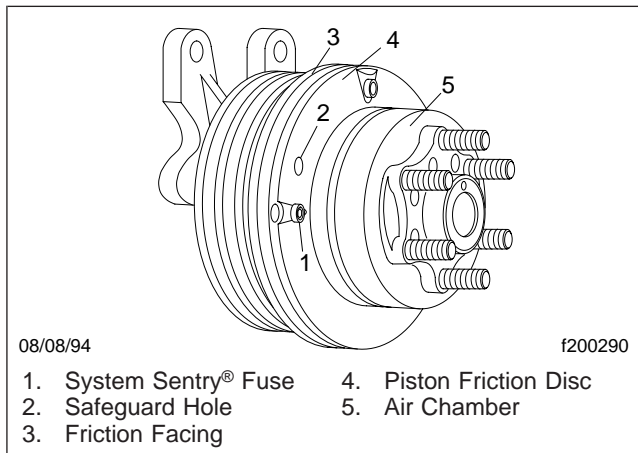
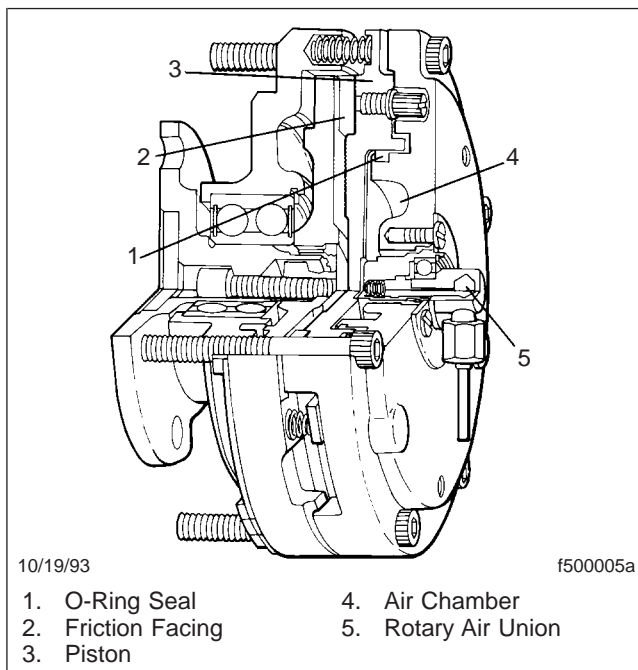

Fig. 3, Horton Type S and HT/S Fan Clutch
Fig. 4, Horton HT 550 Fan Clutch
4. Check for wear on the friction facing. See **Fig. 3** (Type S and HT/S) or **Fig. 4** (HT 550). Replace the facing if it is worn to 1/16-inch (1.6-mm) thickness or less on a Type S or HT/S fan clutch, or to 7/32-inch (5.6-mm) on an HT 550 fan clutch.
6.1 Type S and HT/S Fan Clutches (Fig. 3)
6.2 HT 550 Fan Clutch (Fig. 4)